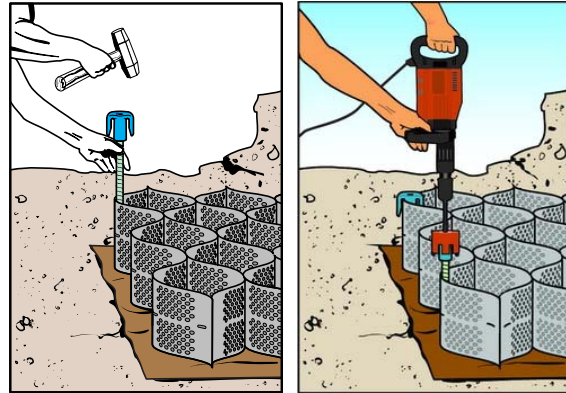
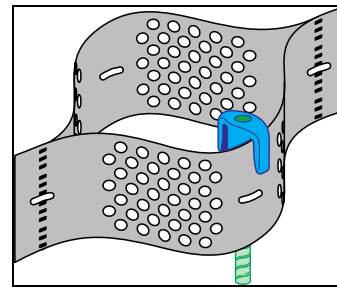

Figure 7 Stake Anchorage
Figure 8 ATRA® Anchor Placement Options
- **Option 1:** Expand the specified Geoweb® section into position and anchor with stakes. See Figure 7. When ATRA® Anchors are used, ensure the ATRA® Clip arm is hooked over the cell wall or placed through the cell-wall slot hole. See Figure 8.